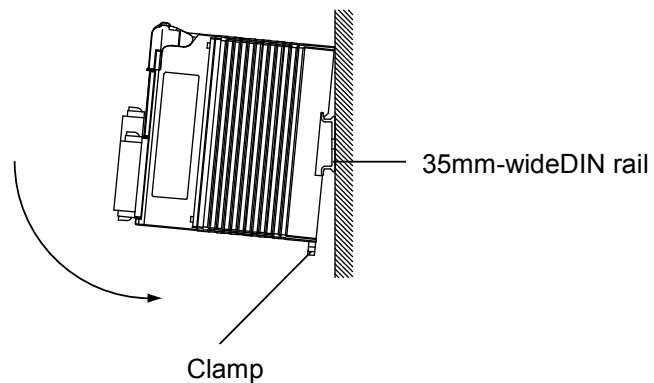

Fig. 3.4 Mounting
2. With the top of SafetyOne unit facing up, as shown in Fig. 3.4, insert the groove, on the rear of the unit, and press the unit in the direction of the arrow.